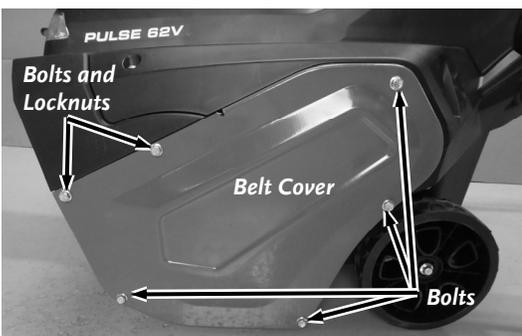

Figure 14
2. Remove the two Bolts and Locknuts from the upper left side of the Belt Cover (**Figure 14**).